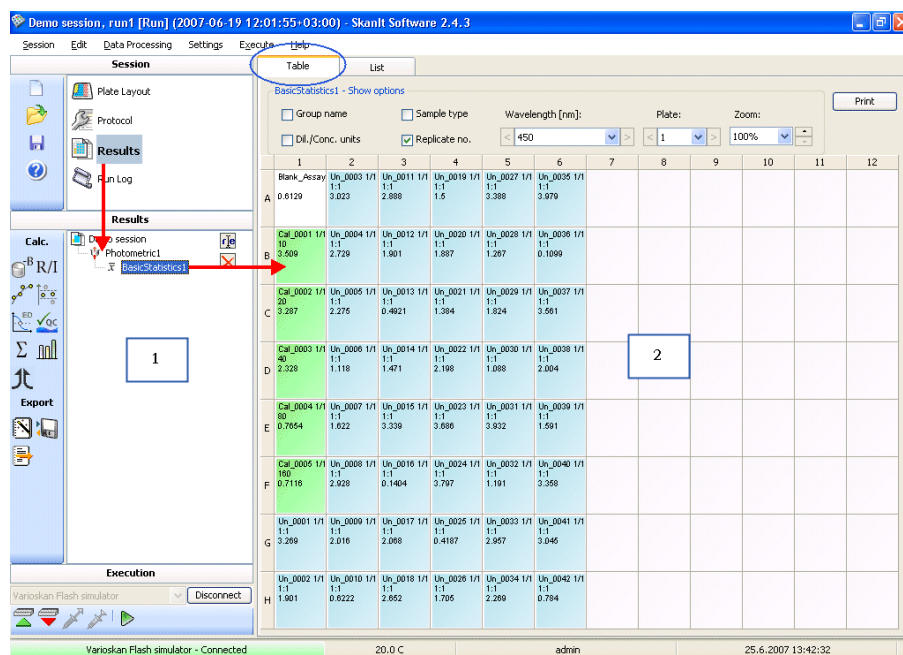

Figure 3-5. Main window for results viewing - measurement results as a table
- When a measurement is selected, the measurement results can be viewed in the table (plate layout) view (Figure 3-5) and the list view.